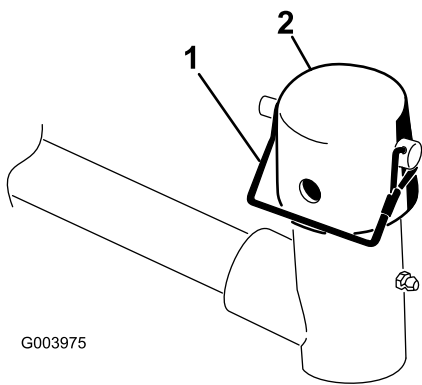

Figure 9
7. Remove the snapper pin and the cap from the lift-arm-pivot yoke (Figure 9).
11. Secure the cap and the carrier-frame shaft to the lift-arm yoke with the snapper pin (Figure 9).